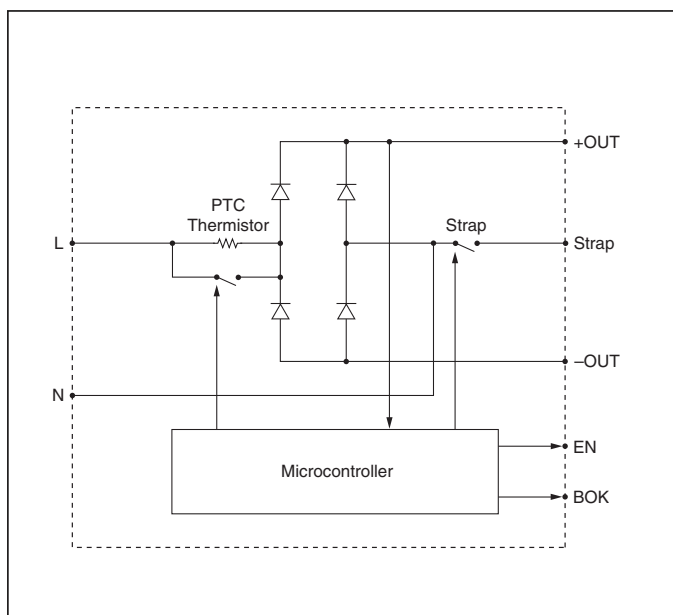

Figure 8 — Functional block diagram
Initial Conditions. The switch that bypasses the inrush limiting PTC (positive temperature coefficient) thermistor is open when power is applied, as is the switch that engages the strap for voltage doubling. (See Fig. 8). In addition, the downstream DC-DC modules are disabled via the Enable (EN) line, and Bus-OK (B OK) is high.